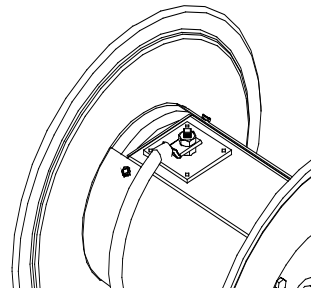

FIGURE 2.0
- Place connector over stud (FIGURE 2.0) and install brass nut (supplied).